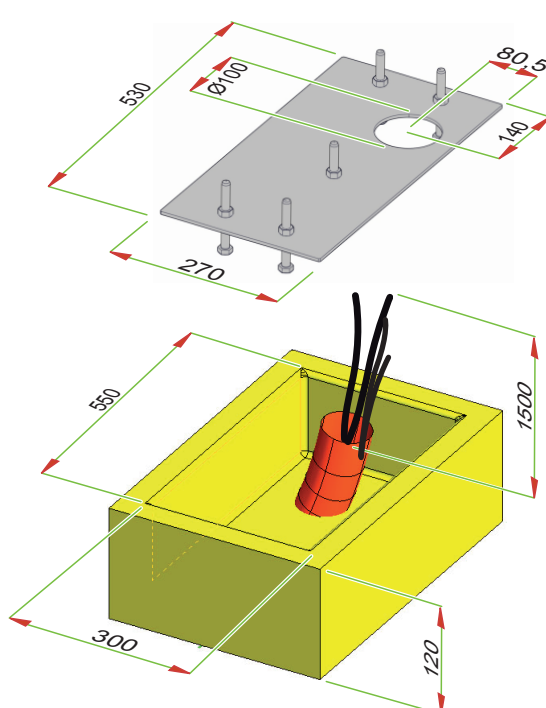

Fig. 7
3. Set the foundation plinth as shown in Fig. 7 and wall in the foundation plate using one or more sheaths for running the electrical cables through the hole in the foundation plate.